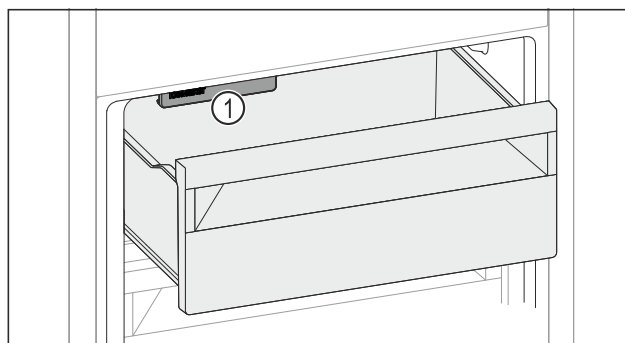

Fig. 176
- Mbani parasysh IceMaker Fig. 176 (I).